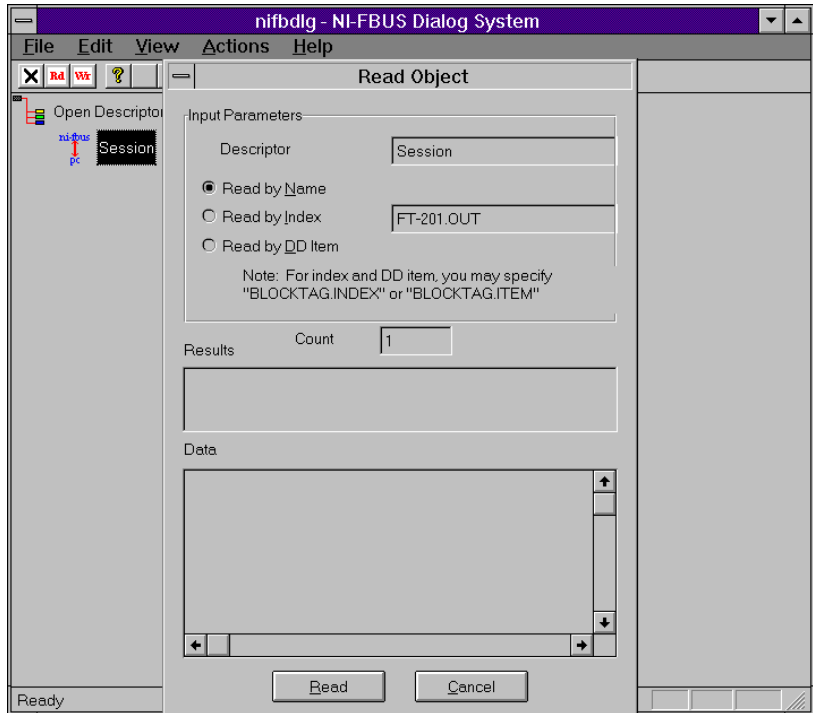

Figure 3-3. Reading a Parameter Using TAG.PARAMETER Access
6. In the dialog box that appears (shown in Figure 3-3), enter the name of the parameter to read in the *BLOCKTAG.PARAM* format, where *BLOCKTAG* is the tag of the block containing the parameter, and *PARAM* is the name of the parameter. For example, to read the *out* parameter of an Analog Input block called FT-201, enter *FT-201.OUT*.